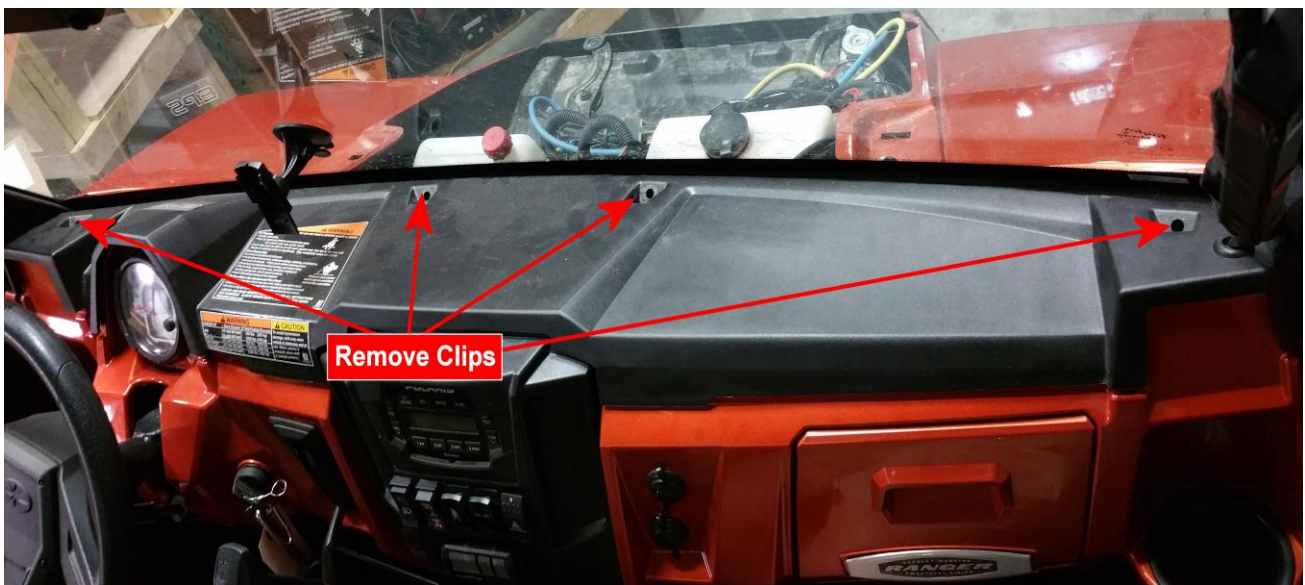

Figure 1
2. Loosen the top dash by extracting the four (4) plastic retaining clips (see Figure 1).